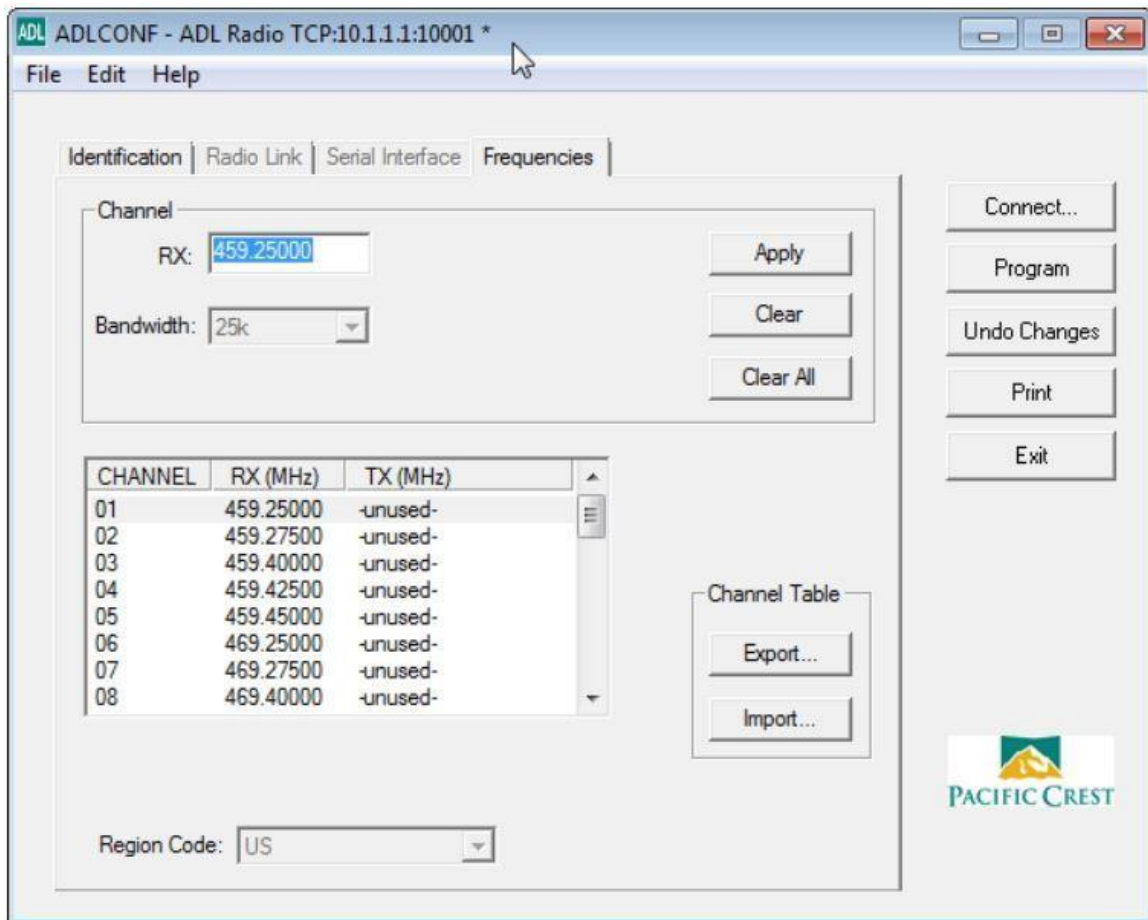

Figure 10: Frequency Configuration Window
- 7) Click on the Frequencies Tab see Figure 10 (Page 24). Select **File** and click on **Import** to upload the Petrobras Configuration File and press **Open**.